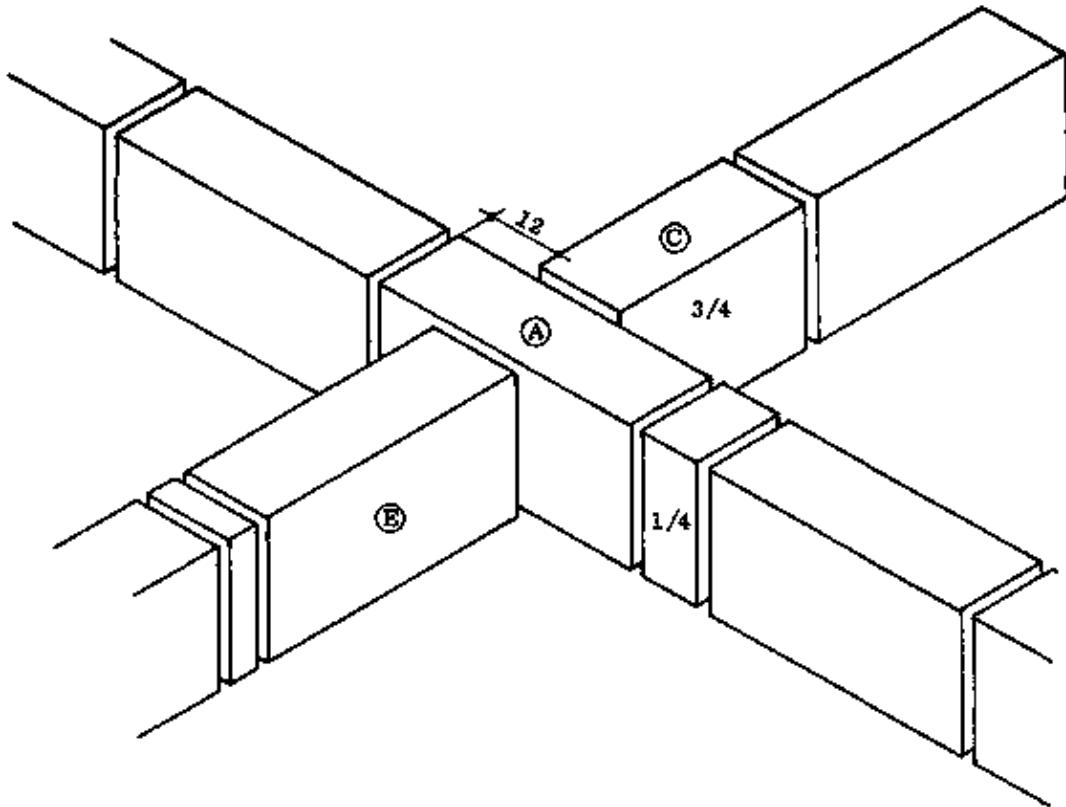

Fig. 1
- All through blocks (Figs. 1 & 2, blocks A & B) project from the crossed wall by 12 cm at one end (12 cm is 1/4 block plus the joint). These blocks are followed by 1/4 blocks at the other end (Figs. 1 & 2).